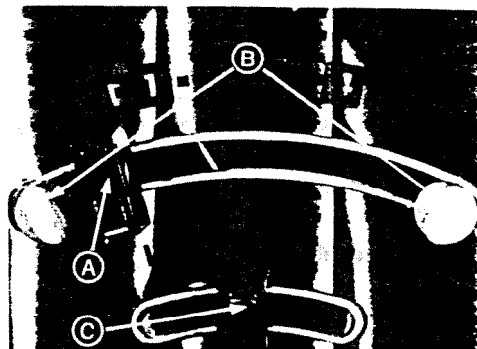

Fig. 22
- (1) Set needle position lever at "M" position (Fig. 22)
- (2) By moving the zigzag width lever "A" (Fig. 22) gradually to the right, it will produce zigzag stitches of ever increasing width. To maintain selected widths of zigzag stitches, employ locks "B" (Fig. 22).
- (3) Left lock determines the minimum width stitch, while right lock controls the maximum. Locks can be set by pressing in slightly and moved to the desired position.
Select needle position by pressing down slightly on control "C" (Fig. 22) and move to desired position.
With the machine set for a short stitch length, different designs can be made by swinging the stitch width lever "A" (Fig. 22) between "0" and "5" or any combination of widths. Try setting the locks at "1" and "5", "2" and "5", etc. Set a rhythm for yourself and then proceed. After a while you will become quite skillful, varying your designs by stitch length and width and the manipulation of lever "A" (Fig. 22). Always run the machine at a uniform speed.